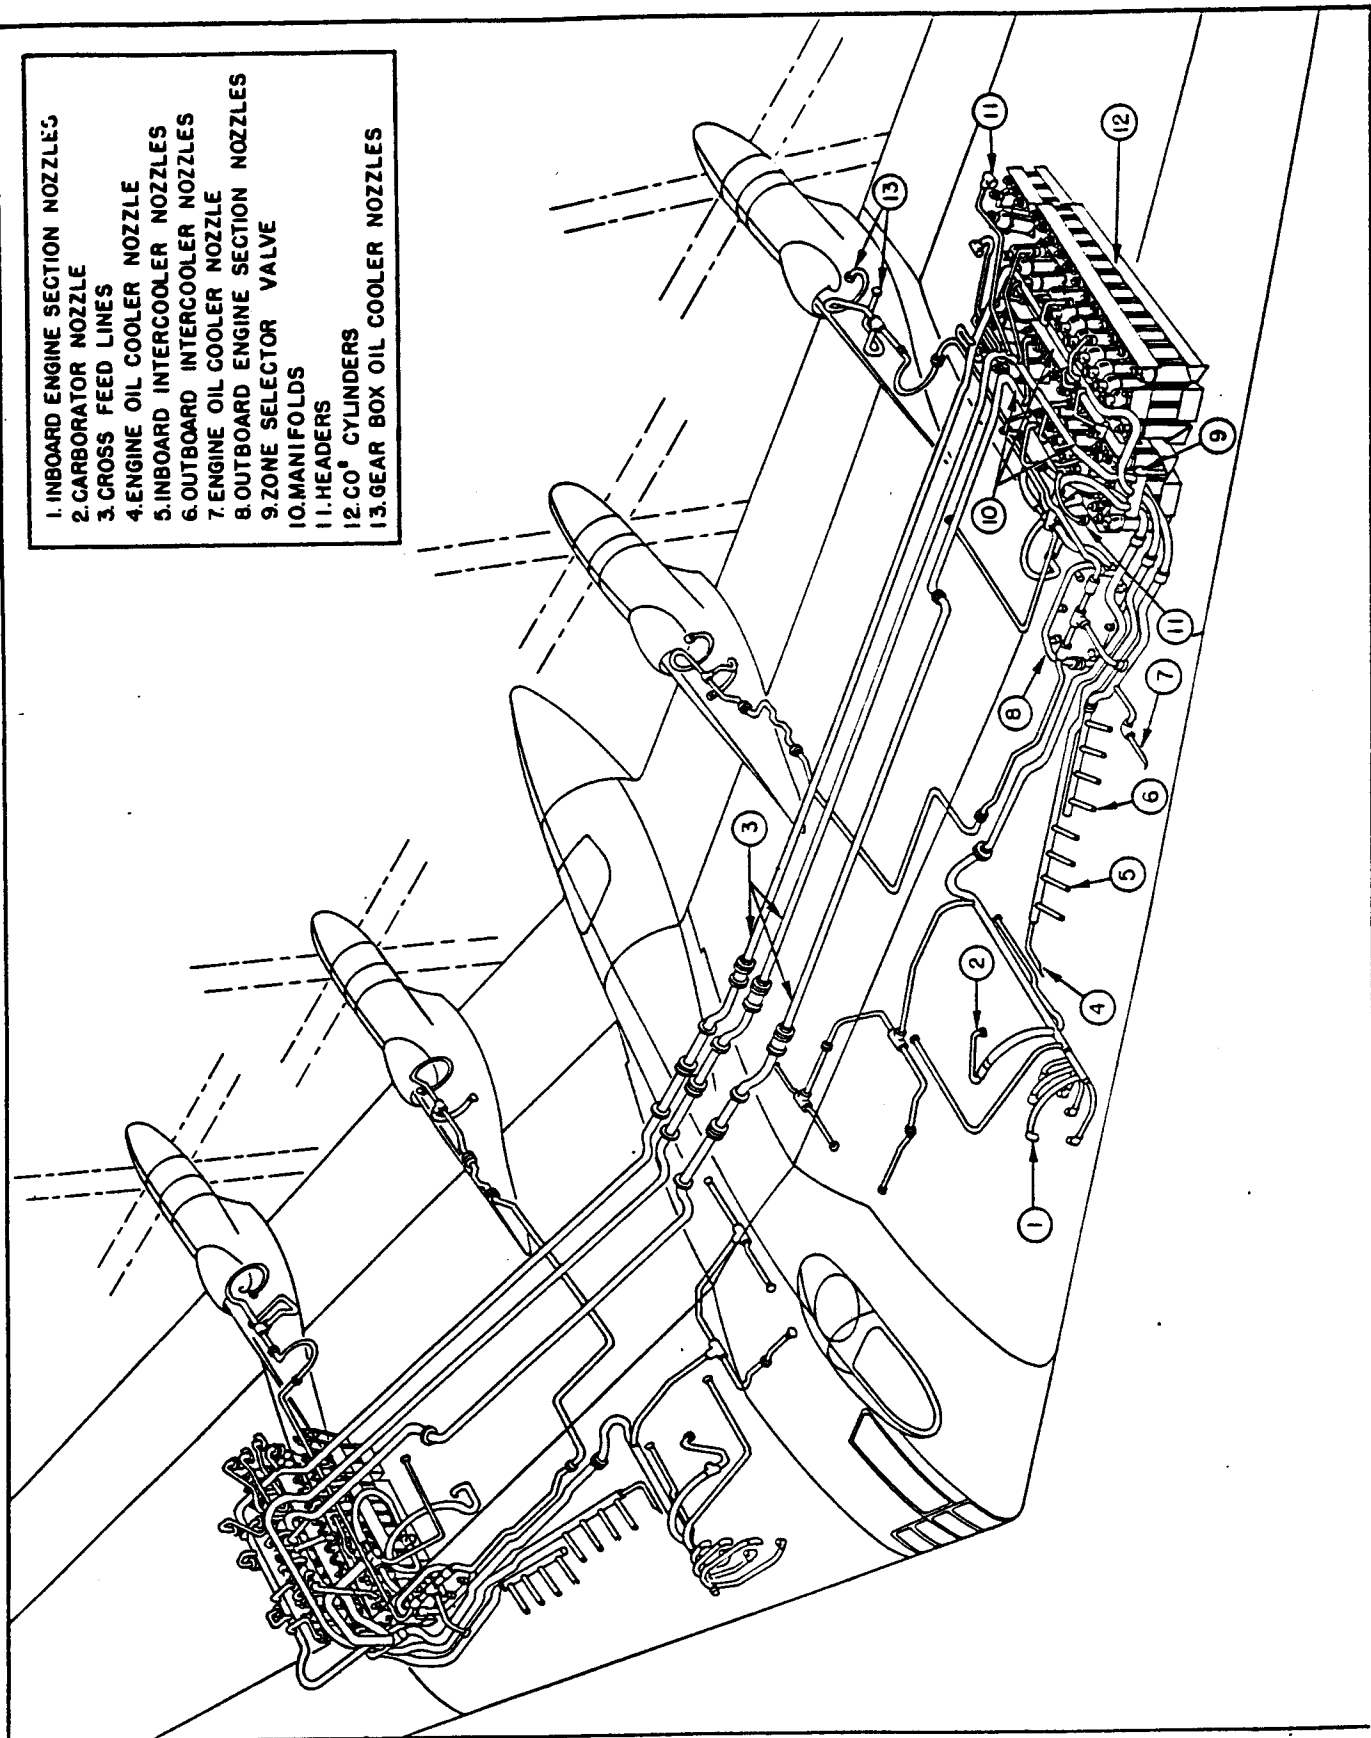

Figure 1. Main Fire Extinguisher System
(1) DESCRIPTION. (See figure 1.)- This is a high pressure carbon dioxide system capable of fighting two independent fires before the storage cylinders are exhausted. The system consists of fire detection-indication circuits and an electrically operated discharge control system. For accurate location the airplane is divided into four zones. Each zone includes one of the engines and is numbered accordingly. That is, engine number one is in zone number one, engine two if in zone two, etc.
(2) OPERATION.- When a fire zone indicator light is illuminated, the following steps should be taken:
(3) DETECTOR AND INDICATOR CIRCUITS.